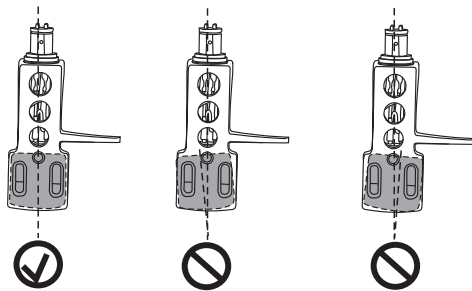

Fig. 3: Tone arm balance
- 3 For optimized pick-up the overhang – the distance between the stylus and the axle of the turntable – should be set to 15 mm. Make sure that the system is centered (correct azimuth) and the screws are fixed (Fig. 3).